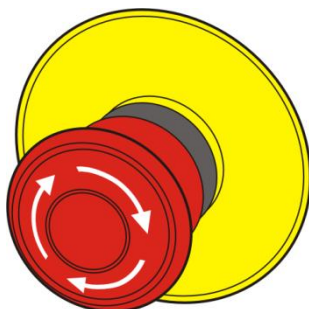

Figure 34: Emergency stop button
- 2 Unlock the emergency stop button by turning (Fig. 34) twice.